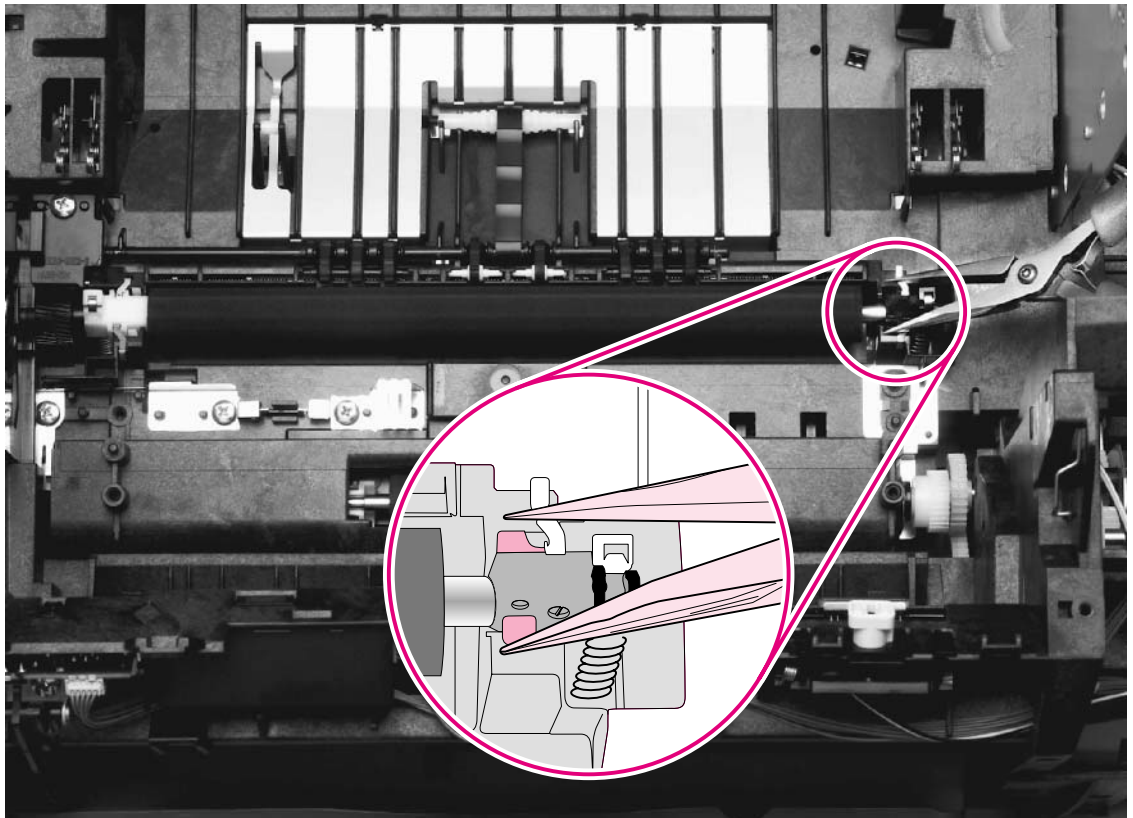

Figure 99.
- 2 Use needle-nose pliers to gently squeeze the small tabs at the right side of the transfer roller (see the detail in figure 99) and then also squeeze the tabs at the left side of the transfer roller to release the roller.